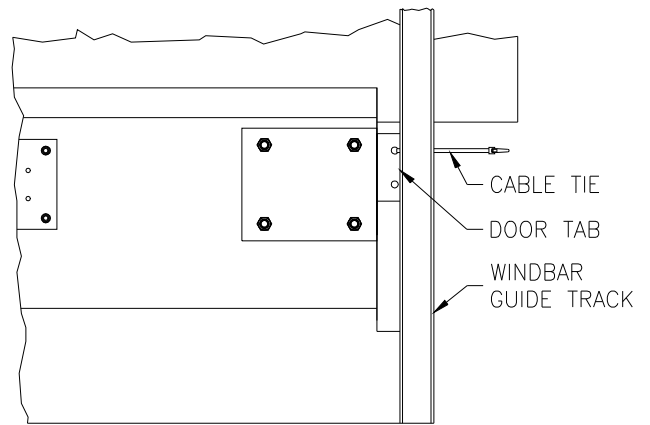

FIG. 8A
- **Insert Fabric into gap** between Wind Bar Guide Tracks (Figure 8a).